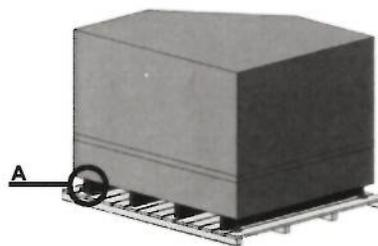

fig.8
- The machine rests on wooden spacer beams (A) on the base pallet (fig.8).